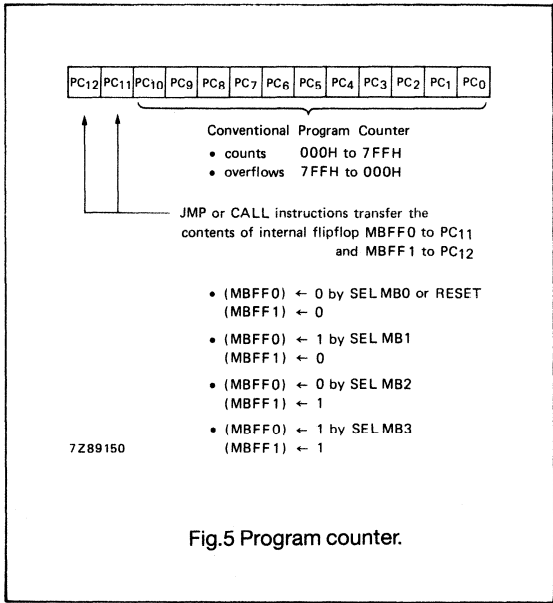

Fig.5 Program counter.
The 13-bit program counter can address up to 8 K bytes of ROM (Fig.5). The least significant 11 bits (PC0 to PC10) are auto-incrementing. The two most significant bits, PC11 and PC12, are loaded with the contents of two internal flip flops (MBFF0 and MBFF1 respectively) when a JMP or CALL instruction is executed. The contents of these two internal flip-flops can be altered by the SEL MB instructions.
- The SEL MB instruction should **not** be used within interrupt routines or in subroutines called within interrupt routines because altering the contents of MBFF0 and MBFF1 (Fig.5) may lead to erroneous JMP and CALL destinations after return from interrupt.